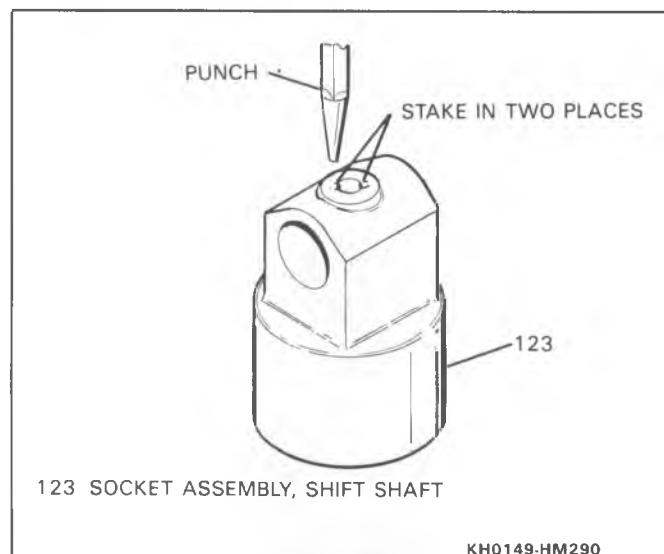

Figure 84 Staking Shift Shaft Socket Assembly
Use a new shift shaft socket assembly (123) or stake the socket as shown in Figure 84. This will prevent the roll pin (122) from walking down and rubbing on the reverse speed gear (25) causing a noise in 2nd, 4th and reverse (or any combination of the three gears). DO NOT REUSE A STAKED SOCKET.
- Roll pin (120) (28mm) and roll pin (122) (33mm).